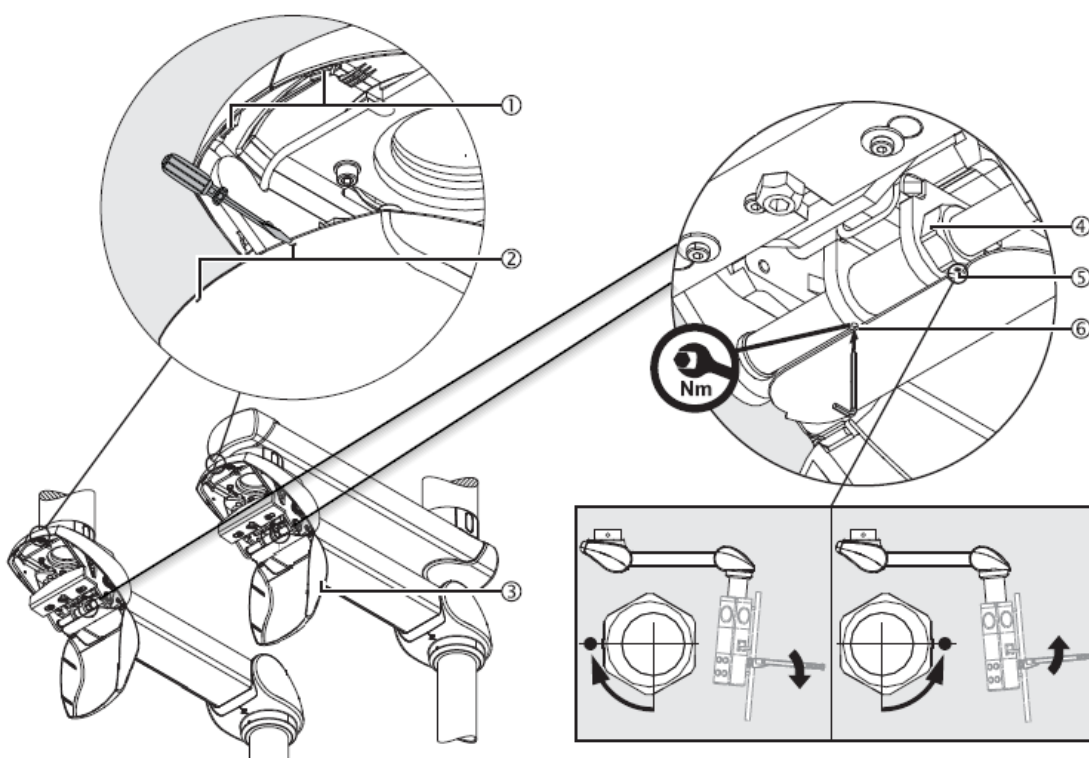

Fig.67 Correcting the vertical alignment of the CEMOR service head or monitor bracket
- Loosen the M4 fixing screw ⑥ - DIN 914.
- Place the spanner on the hexagonal bolt ④.
- The indicator screw ⑤ points downwards (do not loosen this screw).
- To lower the tray in the example shown in figure 67, turn the hexagonal bolt ④ so that the indicator screw ⑤ points forwards (towards you).
- To lift the tray in the example shown in figure 67, turn the hexagonal bolt ④ so that the indicator screw ⑤ points backwards (away from you).
- Tighten the M4 grub screw ⑥ - DIN 914.